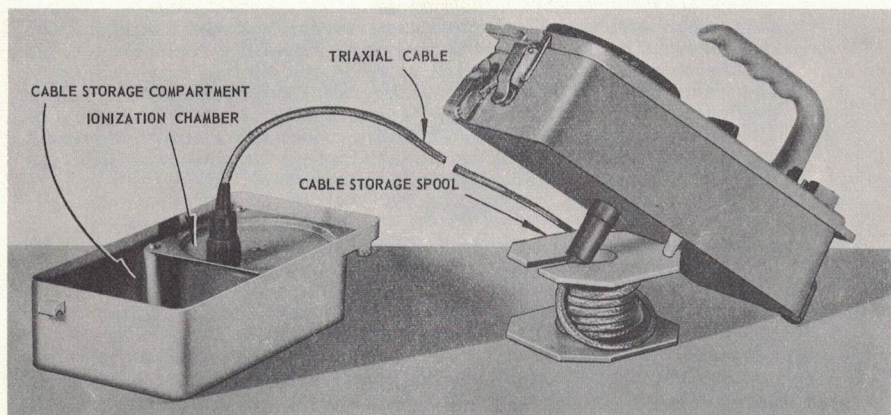

Figure 6. Remote Operation Using Cable Assembly
The detecting element in the CD V-717 is an hermetically sealed ionization chamber. This chamber is located in the front portion of the bottom case section of the instrument, as shown in Figure 6, to make the instrument nearly equally sensitive to radiation from the bottom and front. The ionization
- d. In order to rest the upper portion of the instrument on a table or the like, slide the cable through the slot in the flange of the cable storage spool and rest the rear of the boot covering the push-fit connector in the semi-circular cut-out in the spool core. See Figure 6. This prevents sharp bends and strains at the point where the cable enters the connector and provides a stable rest for the indicating portion of the instrument.